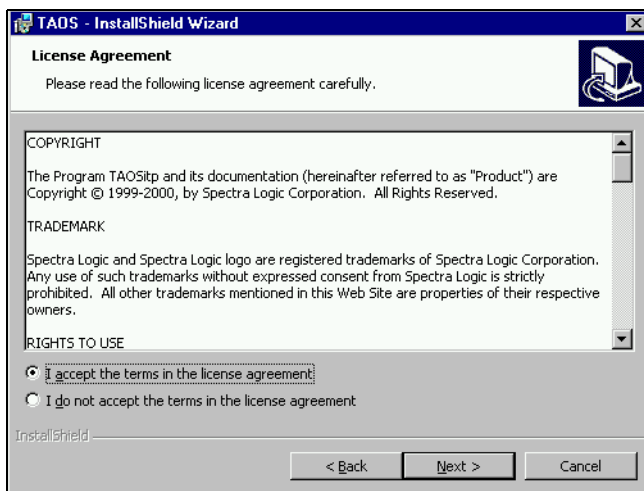

Figure 7-7 The TAOS ITP License Agreement, click Next.
4. Read the License Agreement. If you accept the terms of agreement, check the box labeled **I accept the terms in the license agreement** and click **Next**. (Figure 7-7)